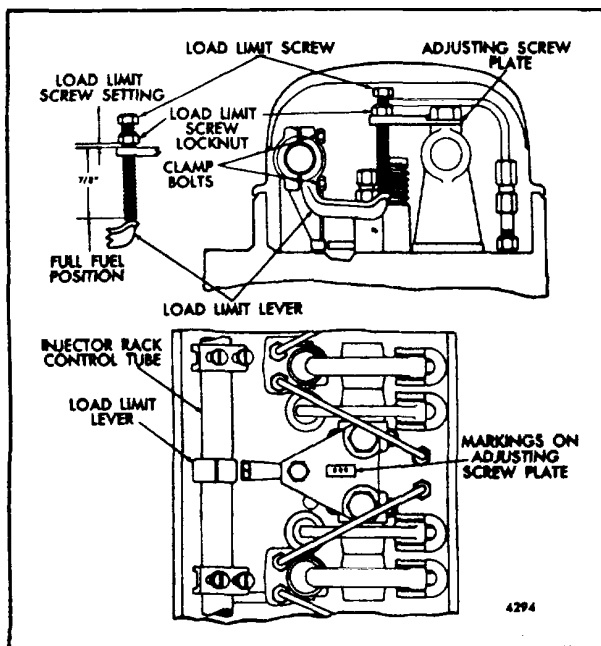

Fig. 1 Engine Load Limit Device
Engines with mechanical governors may be equipped with a load limit device (Fig. 1) to reduce the maximum horsepower.
After the engine tune-up is completed, make sure the load limit device is properly installed as shown in Fig. 1. Make sure the counterbores in the adjusting screw plate are up. The rocker arm shaft bracket bolts which fasten the adjusting screw plate to the brackets are tightened to 50-55 lb-ft torque. Then adjust the load limit device, on each cylinder head, as follows:
3. With the screw out of the plate, adjust the load limit screw lock nut so the bottom of the lock nut is $7/8$ " from the bottom of the load limit screw (Fig. 1) for the initial setting.